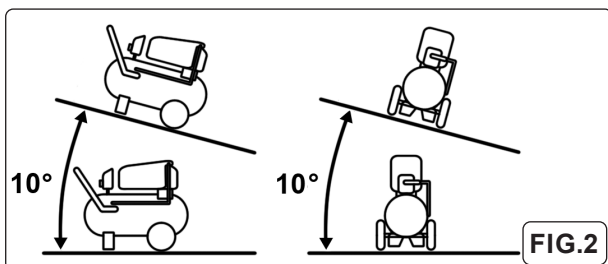

FIG.2
- 4.3. The compressor should be installed on a flat surface, or one that does not exceed 10° either transversely or longitudinally, (see fig.2) and should be in a position that allows good air circulation around the unit.